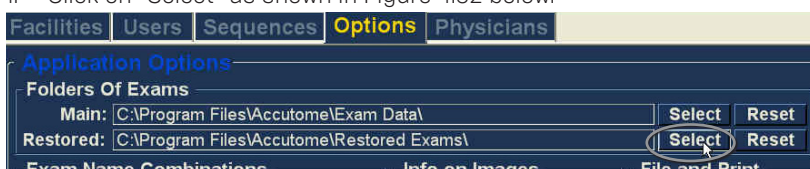

Figure 4.32 - Selecting Restored Exam Folder
1. Click on "Select" as shown in Figure 4.32 below.